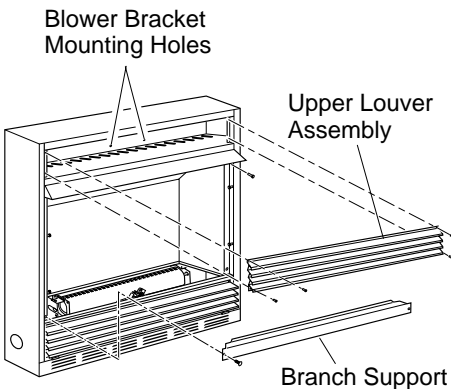
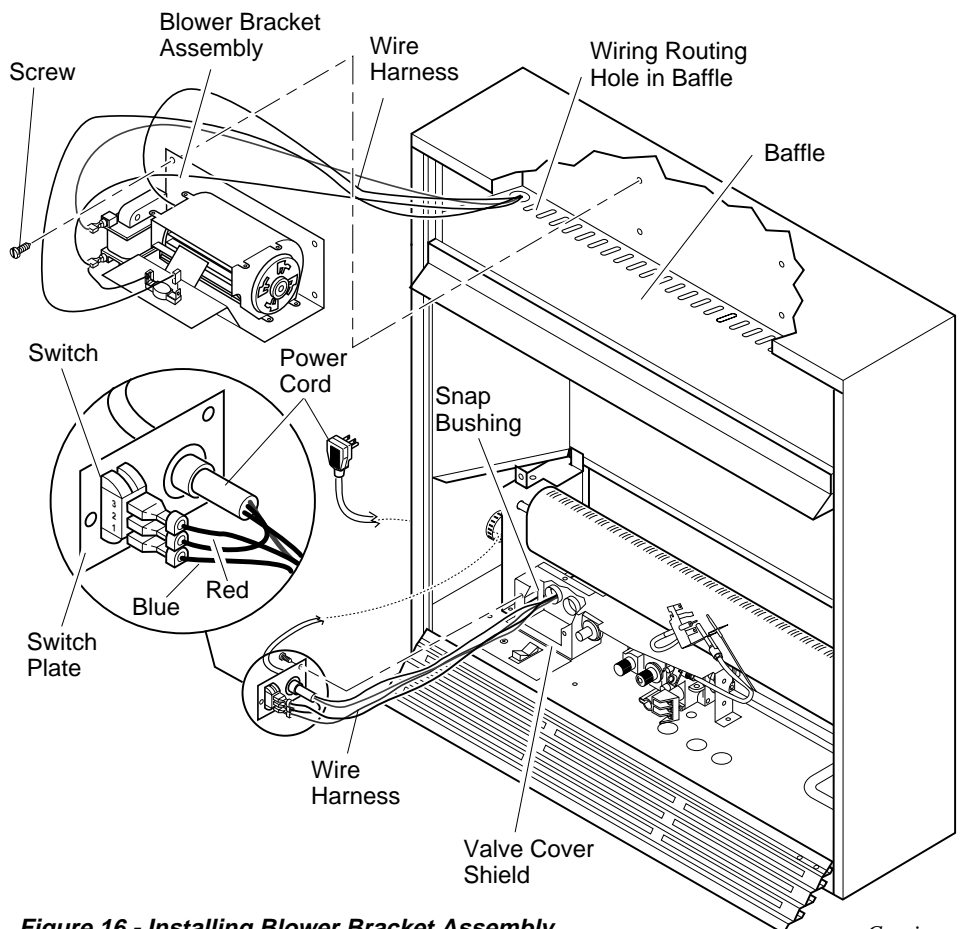
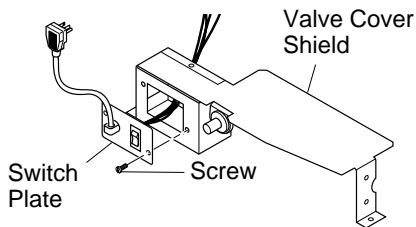

Figure 15 - Removing Upper Louver Assembly and Branch Support
Figure 16 - Installing Blower Bracket Assembly
Figure 17 - Installing Switch Plate to Valve Cover Shield
2. Remove 2 screws from each side of branch support and pull branch support out (see Figure 15).
3. Remove 4 brass-plated screws from louver assembly (see Figure 16). Save these screws.
3. Note the wire locations on back of AUTO/OFF/ON switch. The terminals on back of switch are numbered 1, 2, and 3. Carefully remove red wire from terminal 3 and blue wire from terminal 1. Black wire can remain on middle terminal 2 (see Figure 16).
5. In top of the heater cabinet, locate the four mounting holes on the outer casing. Align these four holes with those on the blower bracket assembly. Attach blower bracket assembly to the outer casing with 4 #10 screws provided (see Figure 16).
6. Route the wire harness through the hole in left side of baffle. Pull wire harness through lower opening on the side of the valve shield. (see Figure 16).
7. Insert the 4 wire harness into one of the round holes in the rear of the valve cover shield and through the rectangular hole in the front of shield (see Figure 16).
9. Install the switch plate on the valve cover shield with 2 #10 screws provided (see Figure 17). Route power cord out of the cabinet by inserting it through the bushing on the outer casing (see Figure 16, page 11). Plug fan kit into 120-Volt grounded power supply and test operation. **Note:** When switch is in the AUTO position, the fan will start after the heater has run for a few moments. The fan will continue to run for several moments after the heater has been turned off. When switch is in the ON position, the fan will run until turned to OFF. Reinstall upper louver assembly (see Figure 15, page 11) and branch support. Close lower louver door.
6. Reinstall upper louver assembly (see Figure 15, page 11) and close lower louver.